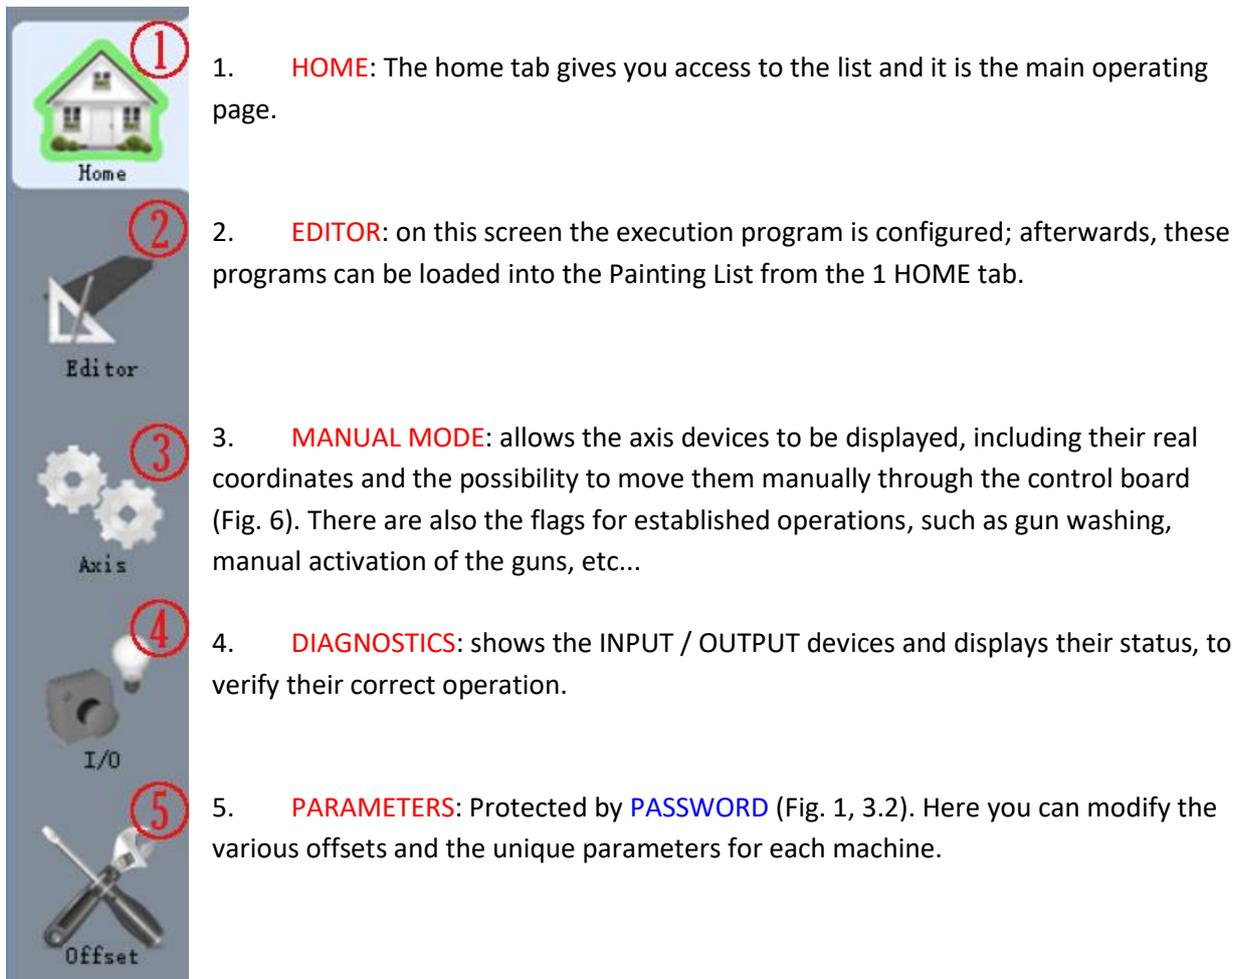

Fig. 2
In the main page on the left, see Fig. 2, there are also the buttons to change the page to the software, so that you can access all the available features.
- Name: pressing on this column, you can open the folder including all the programs, built through EDITOR Tab 4 (Fig. 2).
- Edit: By pressing the button, you can access the **EDITOR** Tab 4 (Fig. 2) to modify the program, if needed.
2. **ADD ROW:** by pressing the button, a window appears (Fig. 4); it allows you to choose the type of program to add to the execution list. Once it has been selected, the folder including the programs previously developed by **EDITOR** Tab 4, automatically opens (Fig. 2). After choosing the program, this is automatically added to the end of the execution list.